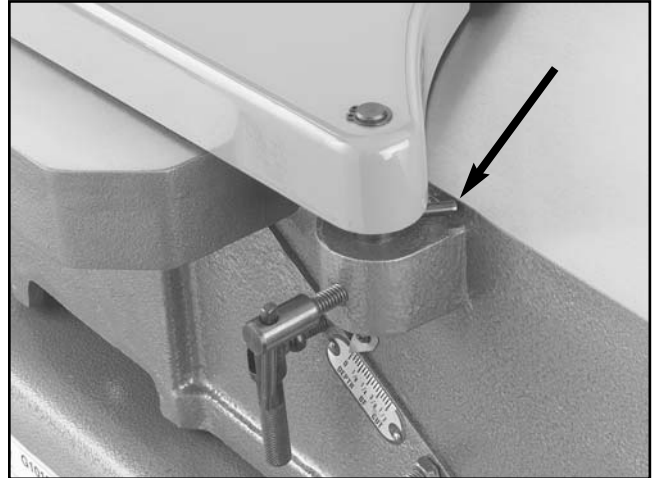

Figure 37. Spring tang against infeed table.
4. Lower the shaft into the shaft housing far enough that the spring tang will rest against the edge of the infeed table when released, as shown in **Figure 37**.